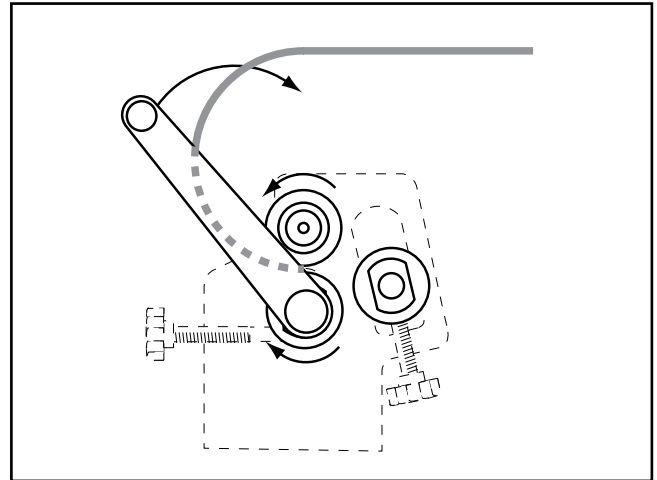

Figure 22. Re-inserting the workpiece.
5. Rotate the workpiece 180°, insert the curved end into the slip roll, then process the workpiece through the machine, as shown in **Figures 22–23**.